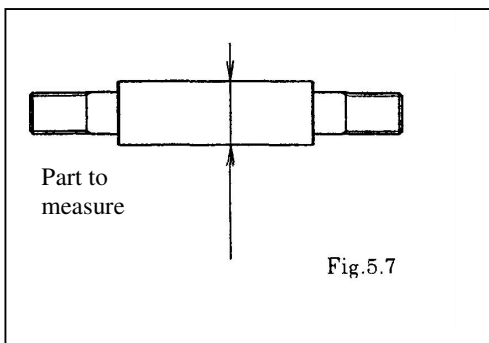

Fig.5.7
- Centre rod [Fig. 5.7]
- Push the diaphragm of opposite side. then turn the diaphragm over. [Fig.5.7]